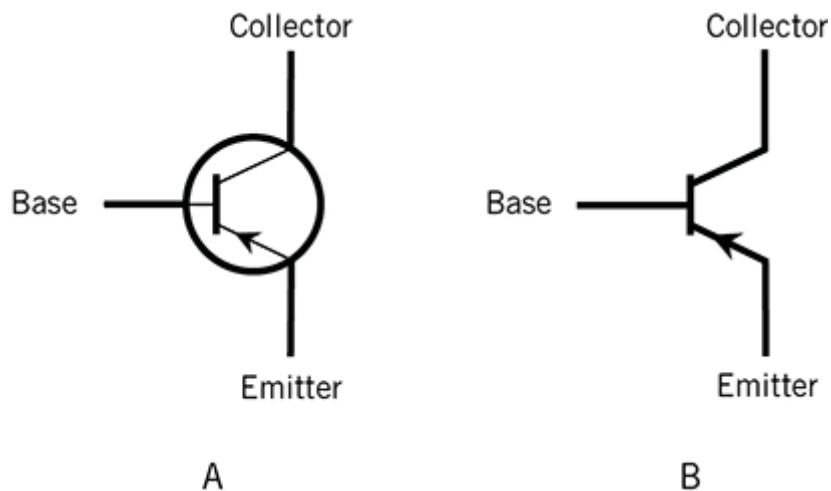

FIG. 1-4 At A, the schematic symbol for a PNP bipolar transistor including a circle. At B, the same symbol without the circle.
Sometimes you'll see a circle-free schematic symbol for a component that normally includes a circle. This non-standard style appears fairly often with the symbols for diodes, transistors, and SCRs. (It almost never happens with the symbols for vacuum tubes or electric outlets.) Figure 1-4 shows a PNP bipolar transistor symbol with the usual circle (A) and without it (B). Don't let "mutants" like this confuse you! The symbols differ but the components are identical.